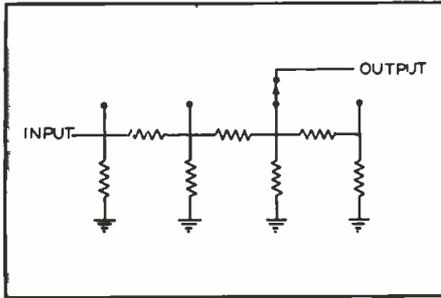

FIG. 1. CONVENTIONAL LADDER-TYPE ATTENUATOR DOES NOT REMAIN PURE RESISTANCE AT HIGH FREQUENCIES
**Attenuator** ★ The most commonly used type of attenuator consists of several resistance pads connected in a ladder arrangement as shown in Fig. 1. This is the conventional picture of an attenuator, with series and shunt resistors connected in the usual manner. If resistances would only remain pure resistances at high frequencies, everything would be well, and the design of attenuators would present no particular problem. Unfortunately, this is almost never the case at frequencies above a few megacycles.